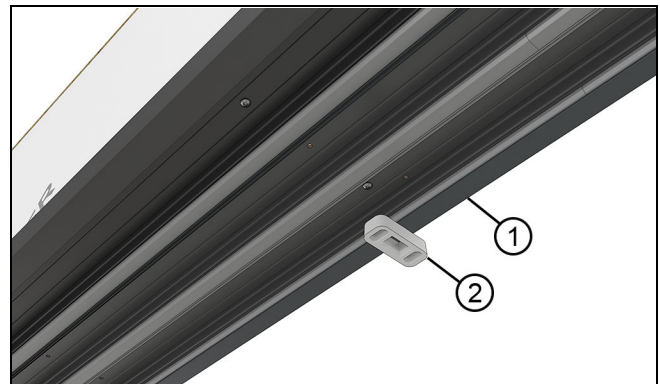
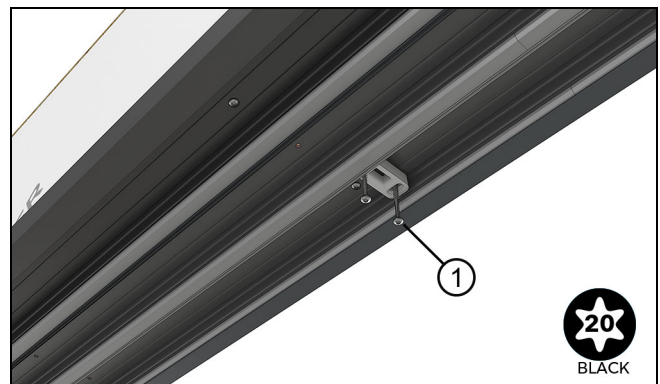

Figure 71
Figure 72
7. On bi-parting units, fasten the flush bolt strike through the pre-drilled holes near the center of the head jamb using #10x3" (64) screws. Make sure there is adequate shimming between the RO and the head jamb at the location of the strike. See Figure 71 and Figure 72.